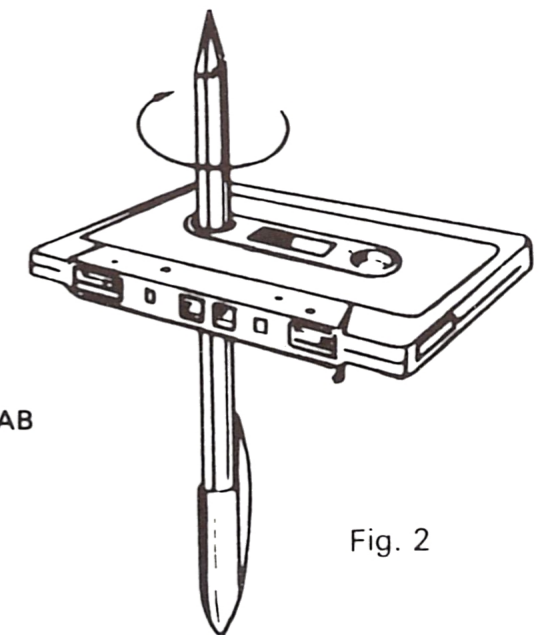

Fig. 2
1. Check that there are no loose layers of tape visible through the cassette centre window "Take-up" these loose layers using a pencil or ballpoint pen before inserting the cassette into the machine (see fig. 2).
2. If the cassette feels "tight" whilst performing the operation shown in fig. 2, the tape may be jamming due to "ridges" in the winding of the tape (visible through the centre window). These may be removed in most cases by fast winding of the cassette from one end to the other and back again.